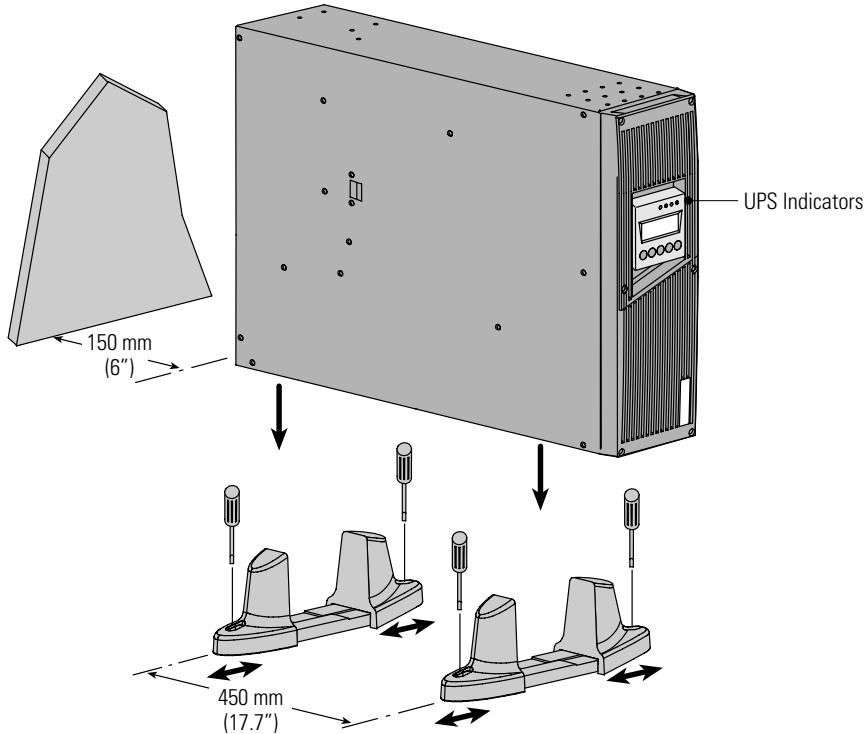

Figure 12. Tower Position with One Cabinet
3. Carefully position the cabinet upright with the UPS indicators at the top and place in the pedestals (see Figure 12).